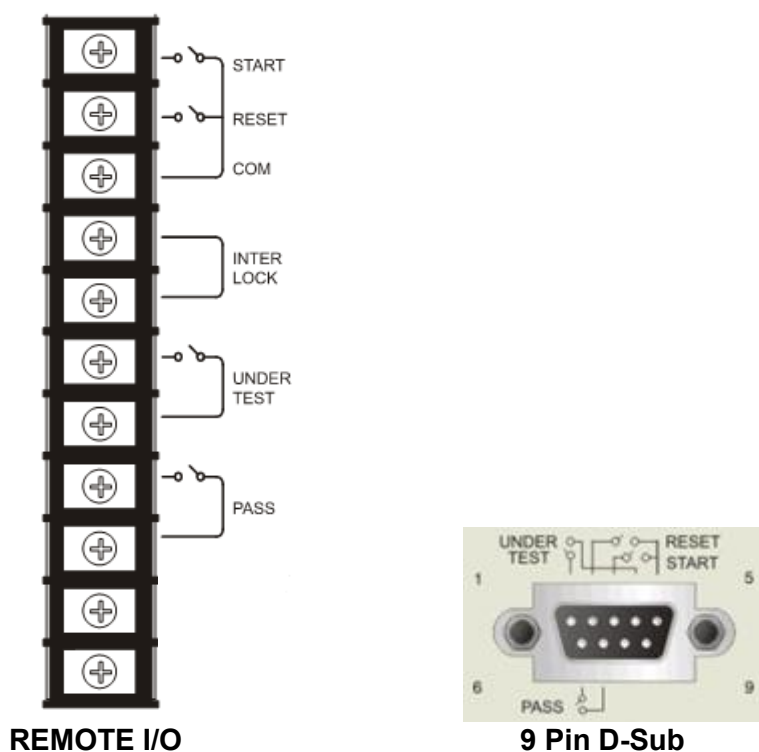

Figure 4-4
5. The pin diagram of REMOTE CONTROL is as *Figure 4-4*. When users want to control external, please remember this pin diagram.